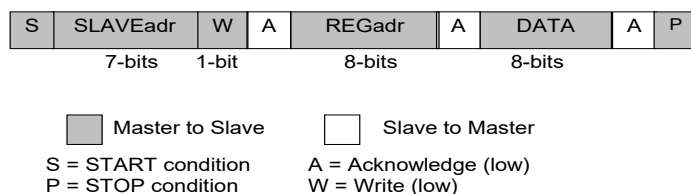
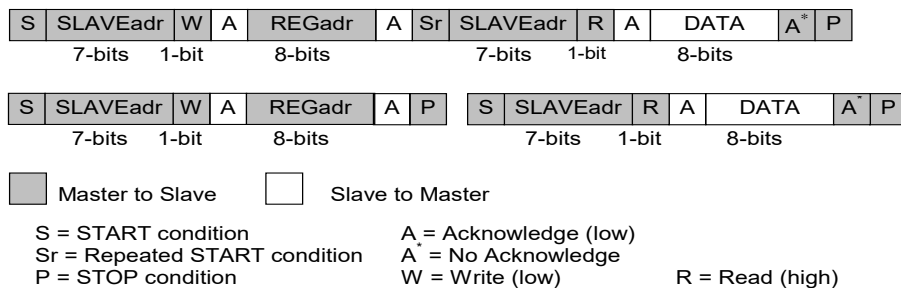

Figure 19: I²C Byte Write (SDA Line)
Figure 20: I²C Byte Read (SDA Line) Examples
The I²C bus is monitored for a valid slave address whenever the interface is enabled. It responds immediately when it receives its own slave address. The acknowledge is done by pulling the SDA line low during the following clock cycle (white blocks marked with A in Figure 19 and Figure 20).
The protocol for a register write from master to slave consists of a START condition, a slave address with read/write bit, and the eight-bit register address followed by eight bits of data, terminated by a STOP condition. DA9121 responds to all bytes with acknowledge (A), see Figure 19.
When the host reads data from a register it first has to write to DA9121 with the target register address and then read from DA9121 with a repeated START, or alternatively a second START, condition. After receiving the data, the host sends no acknowledge (A*) and terminates the transmission with a STOP condition, see Figure 20.